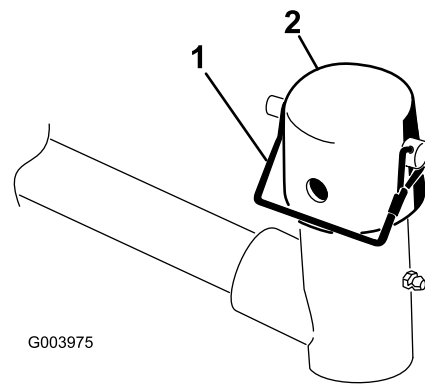

Figure 7
7. Remove the snapper pin and the cap from the lift arm pivot yoke (Figure 7).
11. Secure the cap and the carrier frame shaft to the lift arm yoke with the snapper pin. Use the slot if a steering cutting unit is desired or use the hole if the cutting unit is to be locked in position (Figure 7).